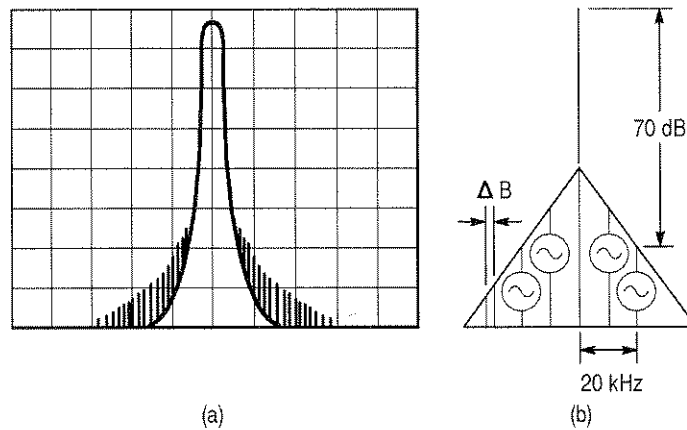

Figure A2-4 Noise Sidebands
**Example:** Suppose the noise level measured in the resolution bandwidth of 1 kHz is -70 dB at 20 kHz apart from the carrier. The noise level is normally expressed by the energy contained in the 1 Hz bandwidth (Figure A2-4(b)).